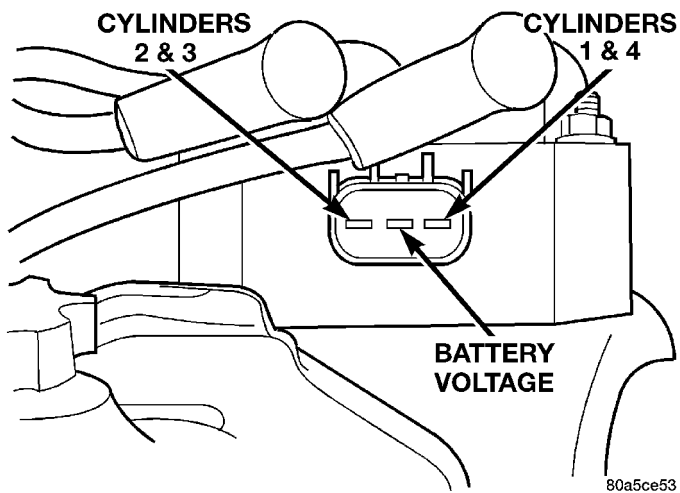

Fig. 17 Terminal Identification
(1) Remove ignition cables and measure the resistance of the cables. Resistance must be within the range shown in the Cable Resistance Chart in Specifications. Replace any cable not within tolerance.
(2) Disconnect the electrical connector from the coil pack.
(3) Measure the primary resistance of each coil. At the coil, connect an ohmmeter between the B+ pin and the pin corresponding to the cylinders in question (Fig. 17). Resistance on the primary side of each coil should be 0.45 - 0.65 ohm at (70° to 80° F). Replace the coil if resistance is not within tolerance.